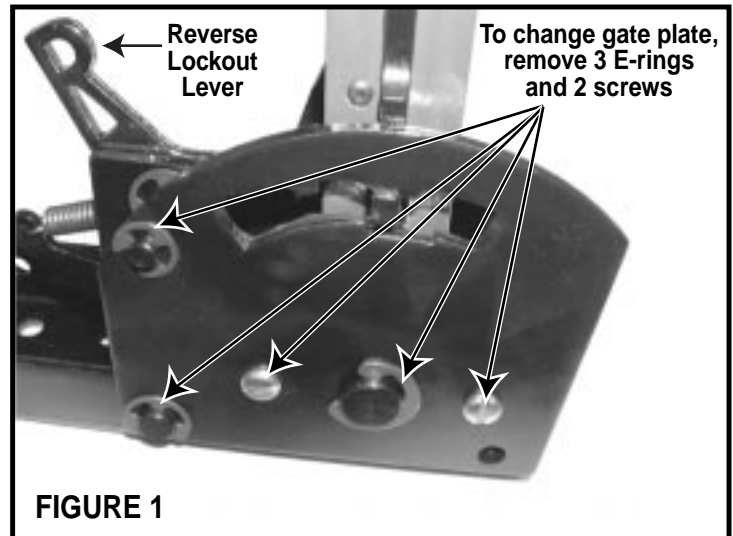

FIGURE 1
To use a different gate plate on the shifter, remove the two screws and three E-rings that hold the gate plate on (**See Figure 1**).
*Note: The Reverse Lockout Lever (See Figure 1) described in the following instructions ONLY needs to be operated when shifting from Neutral to Reverse.*